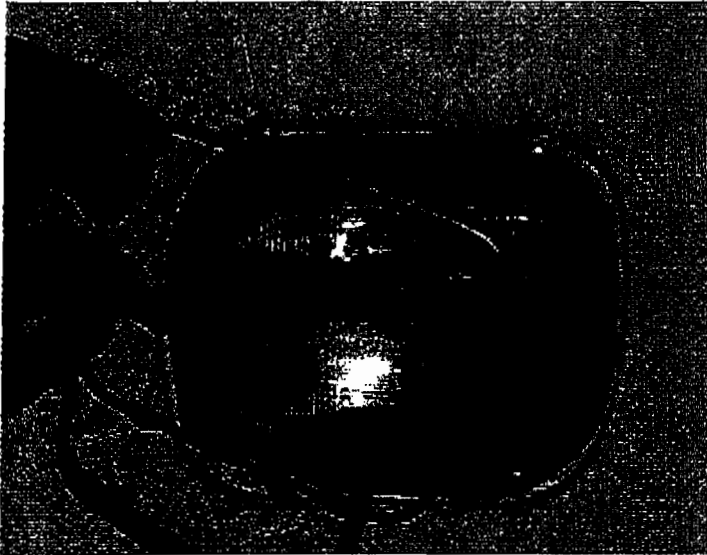

Figure 20. Remove retaining ring.
2. Remove the retaining ring held by (4) screws and set aside. Figure 20.